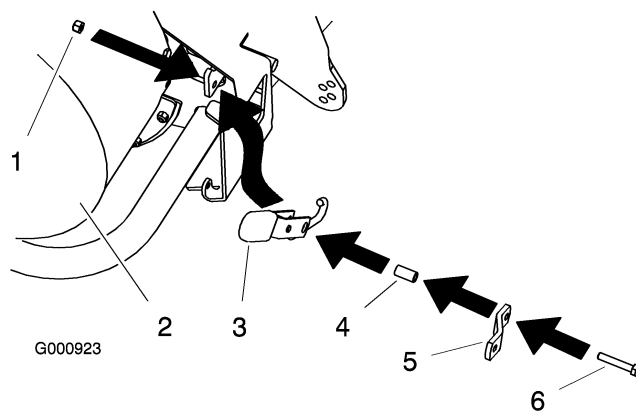

Figure 6
1. Install the latch assembly to the blower and pivot plate at the bottom of the latch with a bolt (5/16 x 1-7/8 inch), spacer and locknut (5/16 inch) (Figure 6).